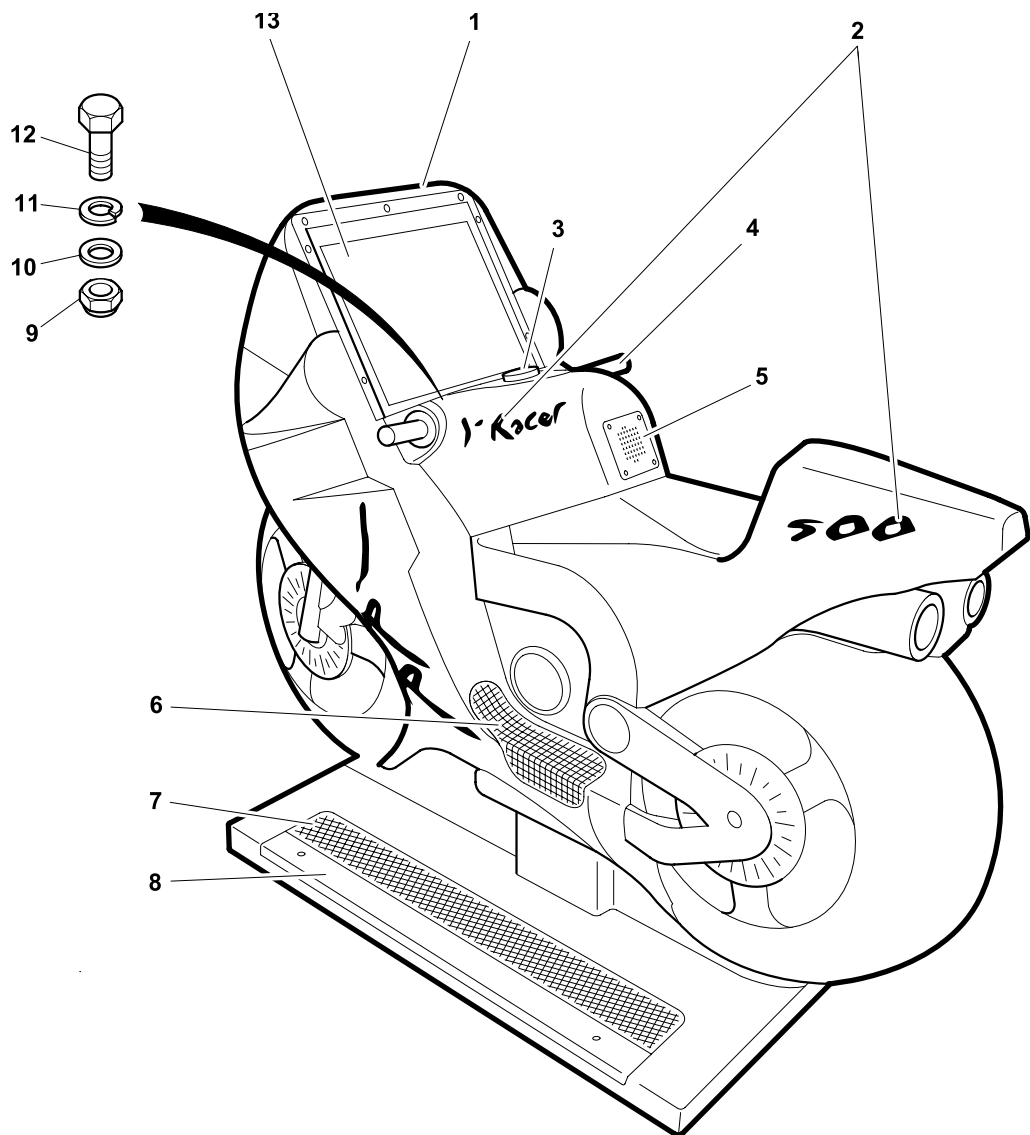

Fig 5 Body shell assembly
Refer to Figure 5 in Spare Parts section for item numbers.
4.19.1 Remove the ride video monitor (refer to para 4.16) and remove the two front mounting bolts, spring washers, washers and nuts (Fig 5, items 12, 11, 10 and 9) situated inside the video monitor opening, which attach the front body to the chassis.
4.19.2 Unlock and open the cash box door and remove the cash box. Remove the two rear mounting bolts, spring washers, washers and nuts (Fig 5, items 12, 11, 10 and 9) situated inside the cash box opening, which attach the rear body to the chassis.